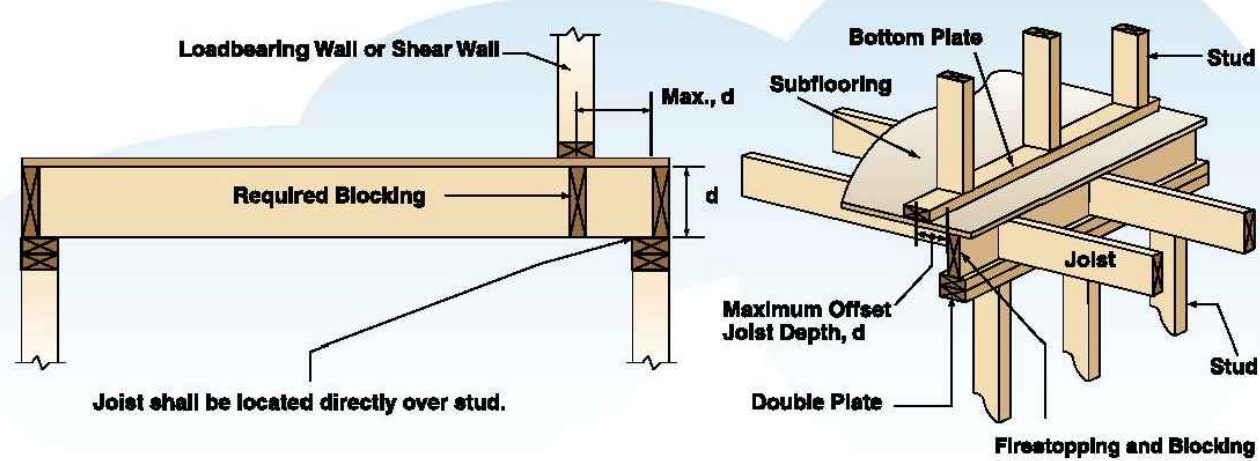

Figure 7. Setback Limits for Loadbearing Wall or Shear Wall and Limit on Loadbearing Wall Offset from Support
- Wall Story Offsets.** Upper story wall segments shall not be offset from lower story wall segments by more than the depth, d, of the floor framing members (See Figures 7 and 8).
- Floor Joists That Support Loadbearing Walls.** Loadbearing walls parallel to joists shall be directly supported by beams, girders, or other loadbearing walls. Loadbearing walls perpendicular to joists shall not be offset from supporting girders, beams, or other loadbearing walls by more than the depth of the joists (See Figure 7).